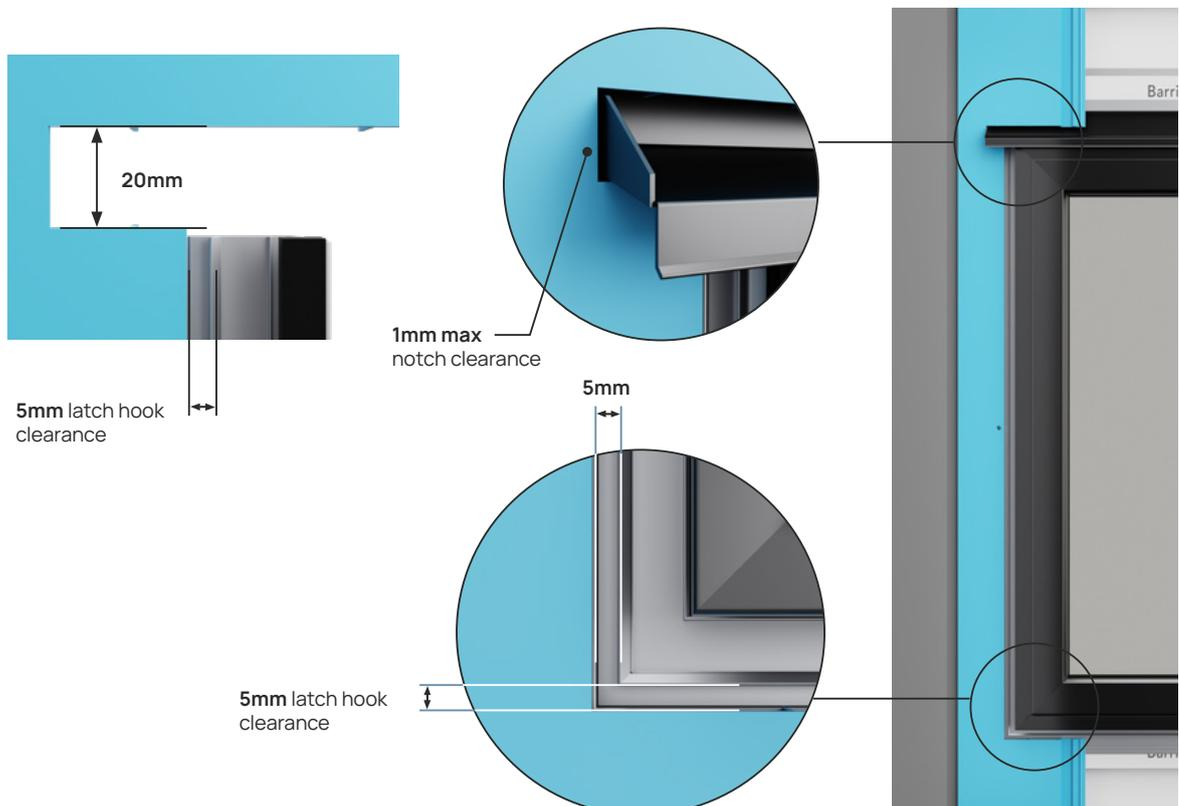

FIGURE 37. VERTICAL BOARD JOINERY NOTCH AND CLEARANCE REQUIREMENTS
2. Cut a full-length board then transfer trim measurements for the required joinery notch cut-out. – See figure 37.